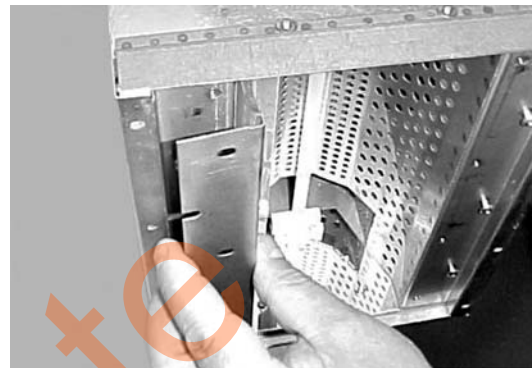

Figure 6-9 Focus Reflector Installation
**Focus Reflectors:** See Figure 6-9. The edge of the reflector sits on the springs next to the lip of the bracket. The lip wraps around the edge of the reflector.